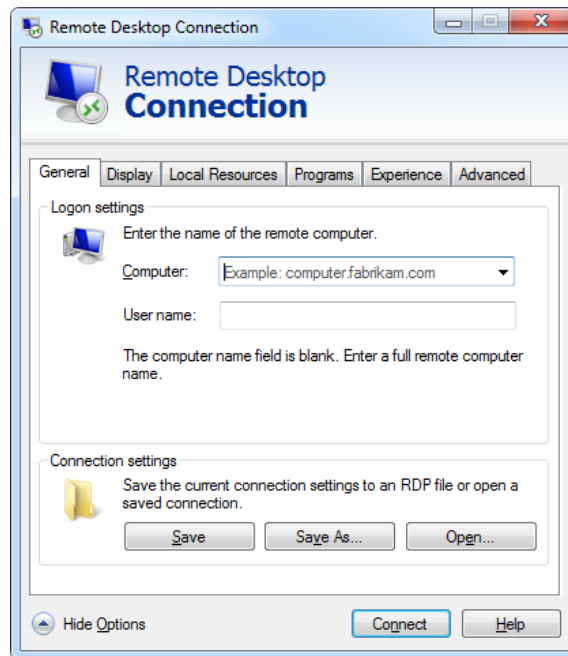

Figure 113. Remote Desktop Connection - General
12. Click **General**. The **General** window appears (Figure 113).